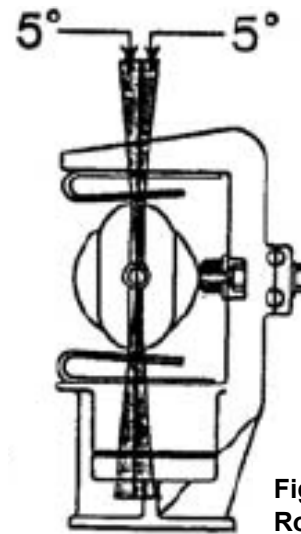

Figure 11: Blade Rotation
- C. The silver of the blade tips should be centered on the silver of the jaw contacts (figure 11). Minor misalignments can be corrected by tilting the jaws toward or away from the center stack, using the jaw jack screws.